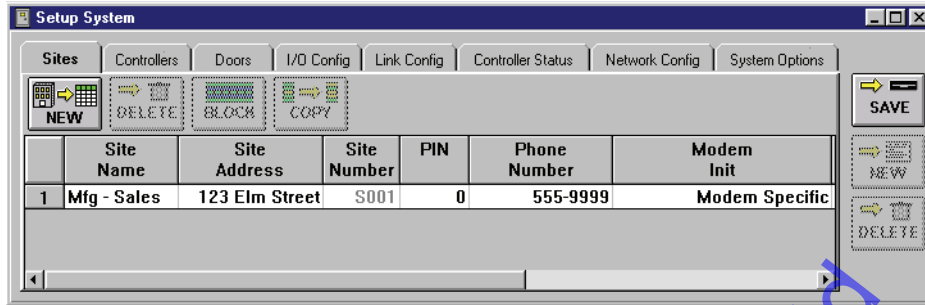

Figure 8-27: Site Deleted
4. Click on the  button. The site is removed from the *Doors* databases (see Figure 8-27).